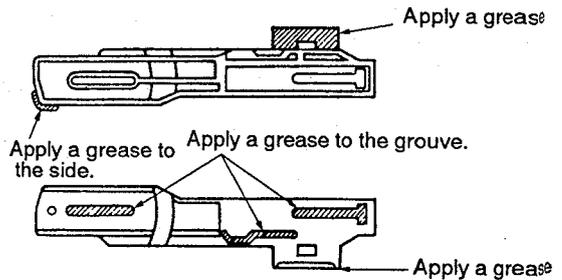

Fig. 12
③ Install the cam gear in the position where projection (B) of the cam gear comes to the front of the follow gear installation shaft..
① Grease the spring slanting cam. (Fig. 12)